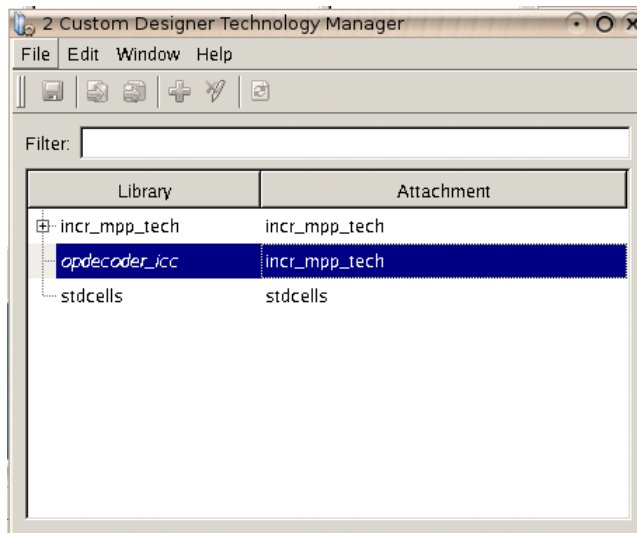

Figure 28 Technology Manager in Custom Designer
2. Set this `incr_mpp_tech` library as tech reference for `opdecoder_icc`, as shown in Figure 28.